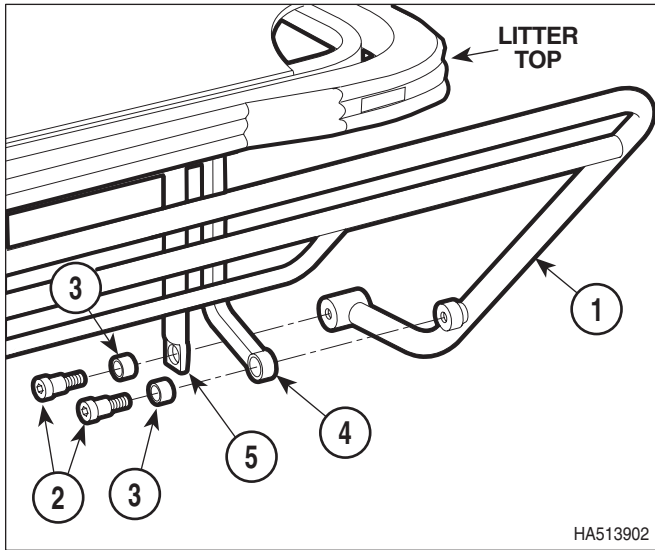

Figure 4-29. Siderail Removal / Installation
- (1) Lower siderail (1, Figure 4-29).
- (2) Remove four shoulder bolts (2) and bushings (3) from two upper links (4) and two lower links (5) and then remove siderail (1).